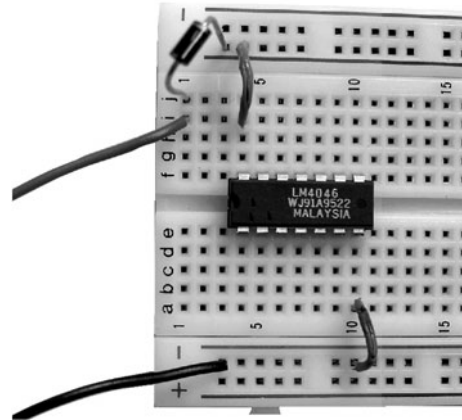

Figure L39-2
Also, note the space restriction that is being imposed. You should squish this initial circuit into the first 15 rows of the breadboard as noted in Figure L39-2.
3. Be sure to scrimp on the space as shown in Figure L39-2. This circuit should occupy only 15 rows of the SBB.